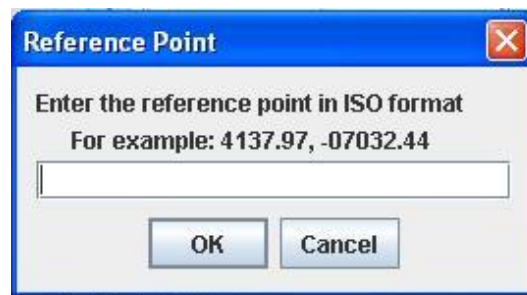

Figure 8-8. Reference Point Dialog.
3. Enter a name for the map (e.g. new-york-harbor-NY) and select 'OK'. This will result in two further dialogs (similar to that shown in Figure 8-8) requesting the lower-left and upper-right map coordinates respectively.
2. Enter a name for the map (e.g. new-york-harbor-NY) and select 'OK'. This will result in two further dialogs (similar to that shown in Figure 8-8) requesting the lower-left and upper-right map coordinates respectively.
It is sometimes useful to add visible reference points to the currently displayed map. This can be achieved by selecting Maps/Draw Reference Point, from the Glmpc Terminal's menu bar. The resulting dialog (shown in Figure 8-8) appears, requesting the user to enter the reference point latitude and longitude, in the ISO format $\pm DDMM.MMM$, $\pm DDDMM.MMM$.